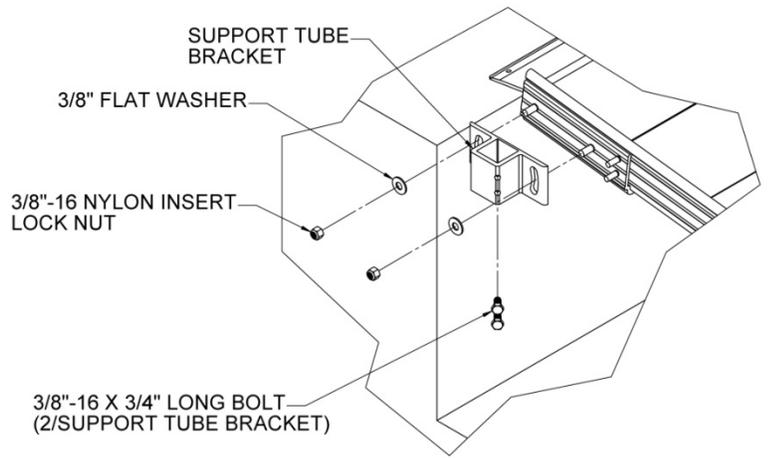

FIG. 6.14
- 6.3.3. Attach support tube bracket to the top support brackets using 3/8" nylon insert lock nuts and 3/8" washers. **DO NOT TIGHTEN** (FIG. 6.14).